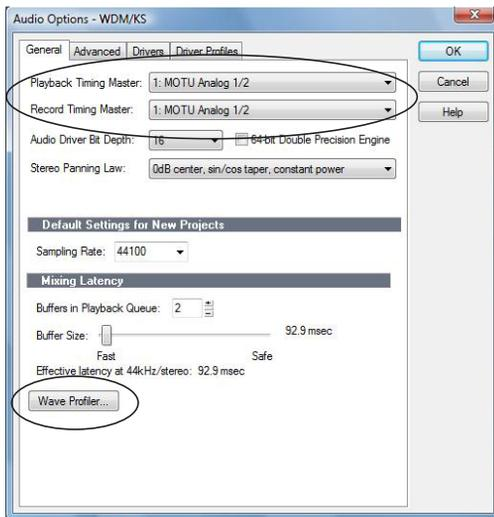

Figure 8-4: Make sure you have chosen a 828mk3 input and output for the playback and recording timing master settings.
- 2 Choose an 828mk3 input and output for recording and playback timing as shown below in Figure 8-4. It doesn't matter which input or output you choose.